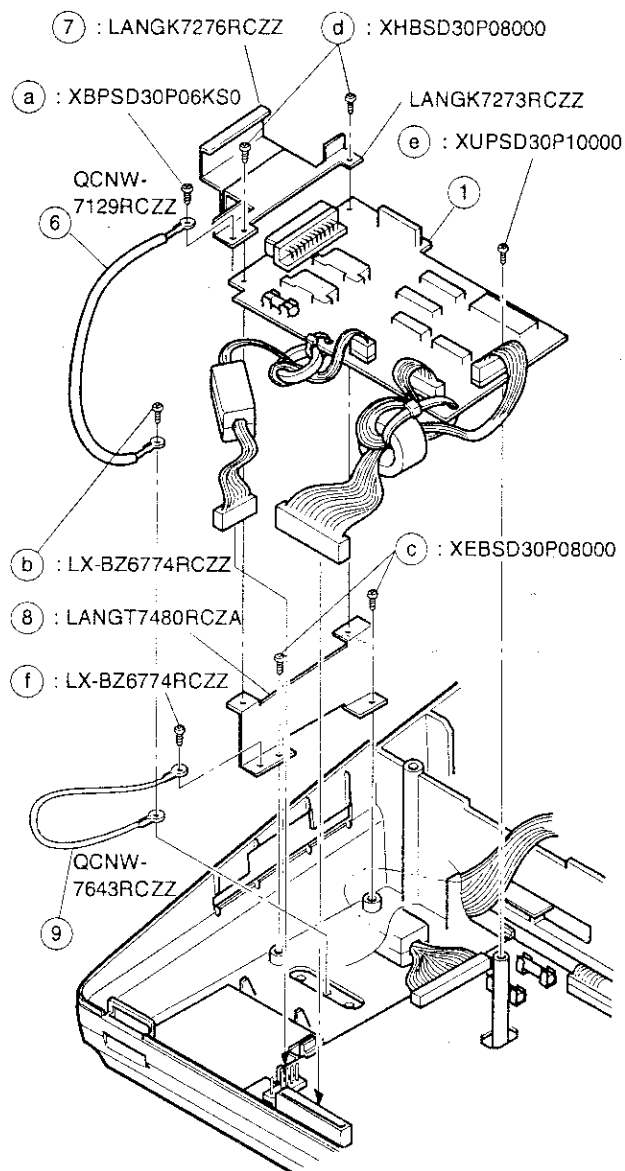

Fig. 3
- 4) Fix earth wire (6) to connector fixing bracket (7) and the main chassis with screws (a) (XBPSD30P06KS0) and (b) (LX-BZ6774RCZZ: Self tap screw). (Fig.3)
- 5) Fix earth wire (9) to PWB fixing bracket (8) and the main chassis with screws (1) (LX-BZ6774RCZZ: Self tap screw) and (6) (Fig.3)
- 6) Fix PWB fixing bracket (8) to the lower cabinet with screws (c) (XEBSD30P08000). (Fig.3)
- 7) Fix I/F PWB (1) between connector fixing bracket (7) and the PWB fixing bracket with screws (d) (XHBSD30P08000: Self tap screw), and fix the assembly to the lower cabinet with screw (e) (XUPSD30P100000). (Fig. 3)
- 8) Connect the 5 pin cable and the 20 pin cable of I/F PWB ① to the main PWB. (Fig.3)